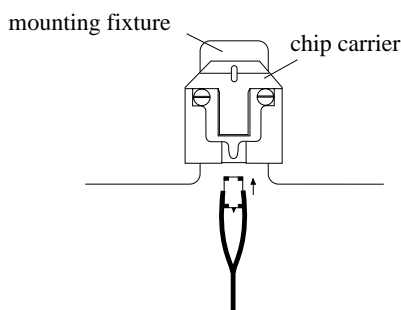

Figure 5. Mounting a chip onto the chip carrier.
5. While pressing down on the chip carrier, use tweezers to grasp the sides of the chip, as shown in Figure 5, below. Slide the chip under the open spring clip so that it sits in the slot at the end of the carrier. Slide the chip in until it hits the back edge of the slot.